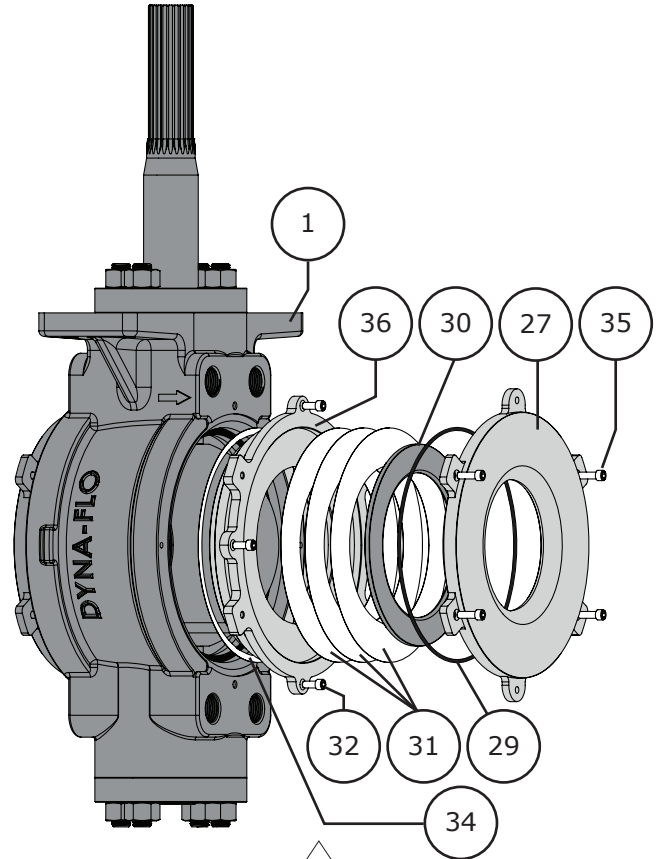

Figure 11 Typical Dual Seal Valve Disassembly
- 7 For Dual Seal Construction (Refer to Figure 11)